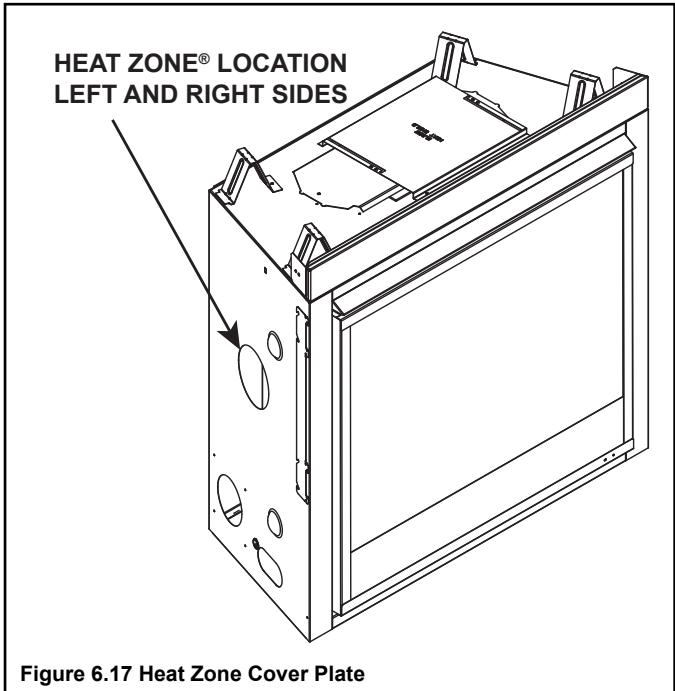

Figure 6.17 Heat Zone Cover Plate
- Locate the Heat-Zone® ports on the left and right sides of the appliance. Either one or two Heat-Zones® may be installed. See Figure 6.17. Remove the knockouts from the appliance with a tin snips.